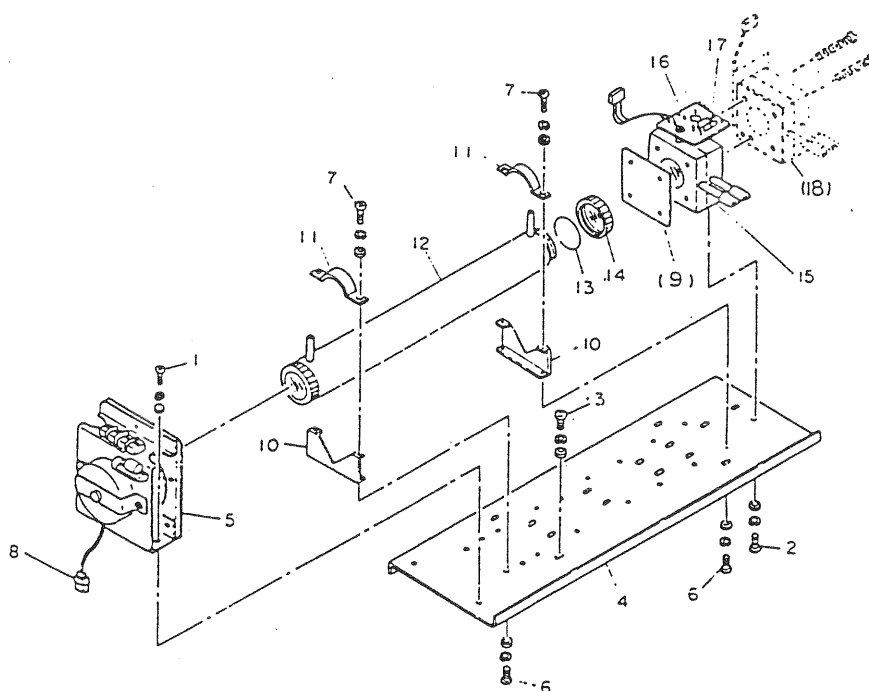

Fig. 6.1 Exploded view of measuring unit
(1) How to disassemble pipe cell(refer to Fig.6.1)
- Displace the infrared source unit(No.5 in Fig. 6.1) by loosening
- 2 fixing screws(No.1 in Fig. 6.1) to base plate so as to make a gap between pipe cell(No.12 in Fig.6.1) and IR source unit.
- f. Loosen and detach 4 screws(No.7 in Fig.6.1) of the cell holders (No.11 in Fig. 6.1).
- g. Remove the cell from measuring unit then detach both windows (No.14 Fig. 6.1) by rotating the window holders anticlockwise.